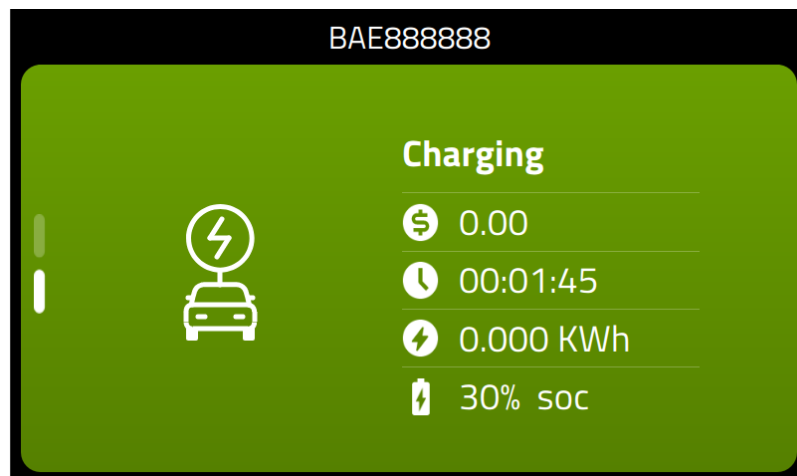

Fig. 59 – Active Charging display
- ❑ Fig. 59 shows an active charging session.